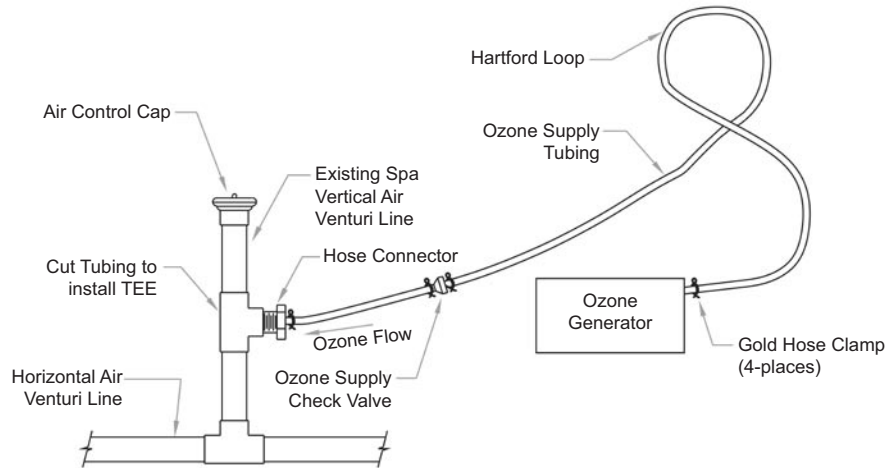
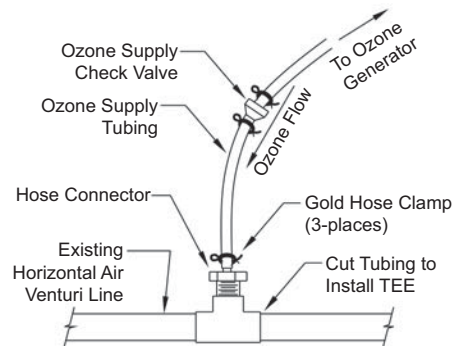
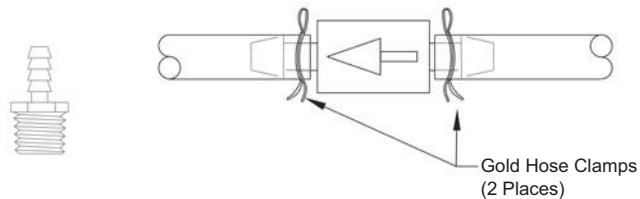

Figure 2: Vertical Air Venturi Line (Location “A”)
Figure 3: Horizontal Air Venturi Line (Location “B”)
Figure 7: Plastic Hose Connector & Check Valve
**LOCATION "A" & "B" (see Figures 2 & 3):** These are the most common connection locations. The assembly procedures are the easiest and sufficient ozone dispersion is provided. They can be used if the air control valves completely close.
**LOCATION "C" (see Figure 2):** This location is used if the air control valve does not have a defined closed position.
Turn off the electrical power and drain the spa at least 12 inches below the selected “A” (Figure 2) or “B” (Figure 3) location. The installation instruction for locations “A” & “B” are identical except that location “A” utilizes a vertical air venturi line and location “B” utilizes a horizontal air venturi line. Use the spa’s venturi air line which provides the best suction and is connected to the lowest jet. (See NOTE on page 5).
**NOTE:** The saddle clamp assembly (Figure 4) may be used if the spa is plumbed with rigid PVC pipe or if there are any rigid locations on the air venturi line such as a tee or elbow fitting. Saddle clamps can be ordered through your local dealer using DEL part number 9-0001. If the spa is plumbed with flexible PVC pipe, an appropriately sized PVC tee fitting, with the center having 1/2” female threads (not included) must be installed (see Figure 3). The plastic hose connector threads into the tee fitting.
A plastic hose connector installed onto the air venturi line may be used when the spa is not "ozone ready". The plastic hose connector can be purchased from your dealer using DEL part number 7-0127 (see Figure 7). Select a convenient location, that provides enough room to work, to install the PVC tee fitting with 1/2" female threads (not included). Cut the existing air venturi line at the selected "A" or "B" location (see Figures 2 & 3). Glue the fitting into place. Be sure to use "FLEX-TO-RIGID" PVC Cement. Wrap Teflon tape on the plastic hose connector threads and install into the tee fitting.
Make sure the water flow arrow on the ball valve is pointed toward the spa. Locate the plastic hose connector, wrap 3 layers of teflon tape on the threads (do not use thread sealant), and install it hand tight into 1/2" female pipe thread fitting of the DEL Rigid Injector Manifold. Tighten the plastic hose connector 1/2 turn with a wrench. Secure one end of the ozone supply tubing to the barb end of the plastic hose connector with a supplied gold hose clamp. Locate the ozone supply check valve and install it into ozone supply tubing by cutting tubing in two separate places approximately 4' from the ozone generator and insert the check valve between each cut, securing both ends of the check valve with gold hose clamps as shown in Figure 7.